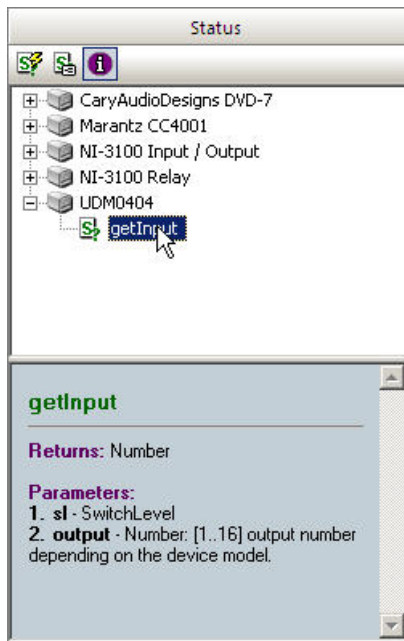

FIG. 231 CodeBuilder - Status tab
3. Click the plus-sign next to any device in the Status tab to expand the view to show all supported functions for that device. Select a function to view information for that function (FIG. 231):